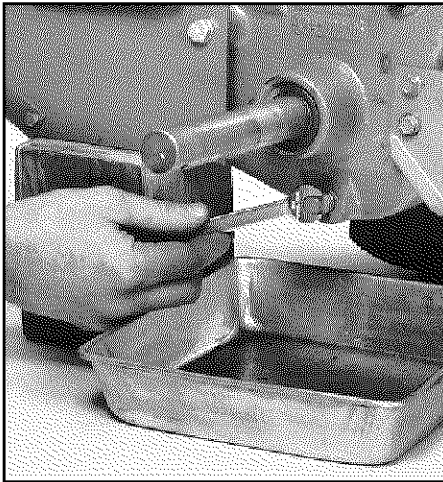

Figure 5-3: Remove drain plug to drain transmission gear oil (also remove oil fill plug and oil level check plug).
3. Place a clean pan below the transmission drain plug (see Figure 5-3) and then remove the drain plug. Oil will flow from the drain hole (it may flow slowly, especially in cold temperatures).